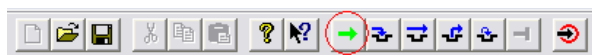

Figure 41. Debugger Run Button
- Either disconnect the BDM cable from the target board and press its reset button or run the program on the target via the debugger session by clicking on the Run button (Figure 41).